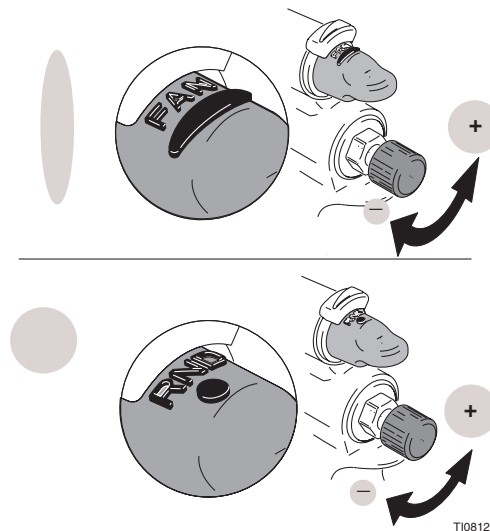

FIG. 8
**Note:** Reducing fluid flow rate or turning air knob to RND will reduce pattern width. Using **air cap 244227** will create a highly productive, wider pattern. Fig. 8.
- When fluid is first applied, start with fluid valve and maximum air and the knob set to the FAN spray pattern position. Then adjust as needed. See Fig. 8 for pattern size adjustment.